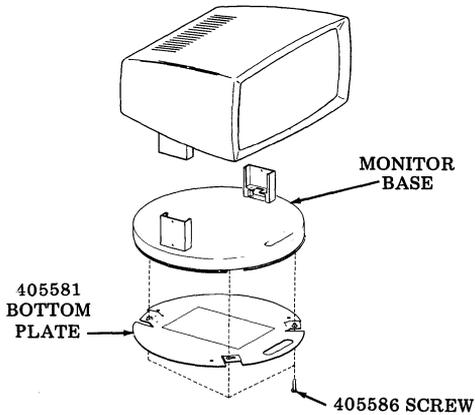

Fig 1.—Monitor Base Removal
- 2.03 Lift monitor off base and put aside. See Fig. 1.
- 2.04 Loosen three 405586 screws from base and remove bottom plate. See Fig. 1.